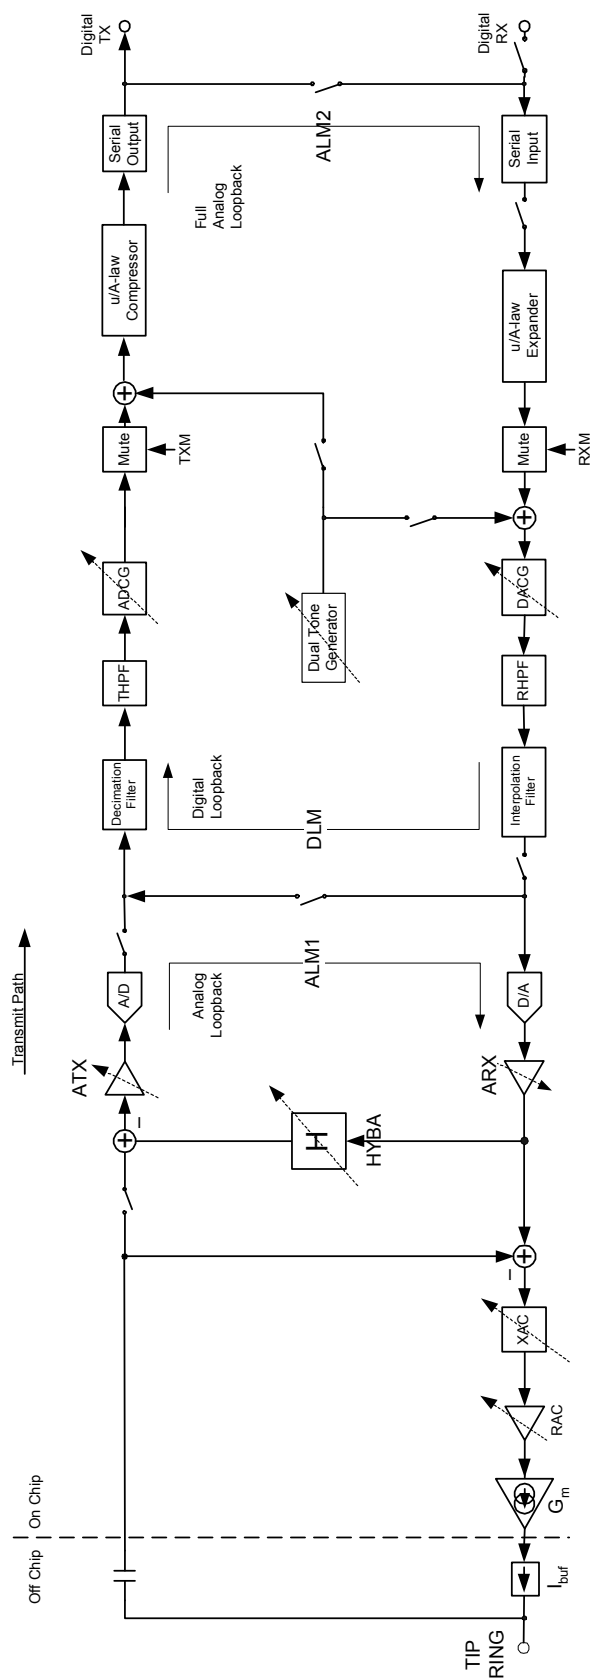

Figure 24. AC Signal Path Block Diagram
Unlike traditional SLICs, the codec function is integrated into the ProSLIC. The 16-bit codec offers software-selectable 200 Hz to 3.4 kHz narrowband and 50 Hz to 7 kHz (Si3216 only) wideband audio modes, programmable gain/attenuation blocks, and several loop-back modes. The signal path block diagram is shown in Figure 24.
The ProSLIC provides programmable transhybrid balance with gain block H. (See Figure 24.) In the ideal case where the synthesized SLIC impedance exactly matches the subscriber loop impedance, the transhybrid balance should be set to subtract a -6 dB level from the transmit path signal. The transhybrid balance gain can be adjusted from -2.77 dB to +4.08 dB around the ideal setting of -6 dB by programming the HYBA[2:0] bits of the Hybrid Control register (direct Register 11). Adjusting any of the analog or digital gain blocks does not require any modification of the transhybrid balance gain block, as the transhybrid gain is subtracted from the transmit path signal prior to any gain adjustment stages. The transhybrid balance can also be disabled, if desired, using the appropriate register setting.
- The full analog loopback (ALM2) tests almost all the circuitry of both the transmit and receive paths. The transmit data stream is fed back serially to the input of the receive path expander. (See Figure 24.) The signal path starts with the analog signal at the input of the transmit path and ends with an analog signal at the output of the receive path.
- An additional analog loopback (ALM1) takes the digital stream at the output of the A/D converter and feeds it back to the D/A converter. (See Figure 24.) The signal path starts with the analog signal at the input of the transmit path and ends with an analog signal at the output of the receive path. This loopback option allows testing of the analog signal processing circuitry of the ProSLIC completely independently of any activity in the DSP.
- The full digital loopback tests almost all the circuitry of both the transmit and receive paths. The analog signal at the output of the receive path is fed back to the input of the transmit path by way of the hybrid filter path. (See Figure 24.) The signal path starts with PCM data input to the receive path and ends with PCM data at the output of the transmit path.
Real and complex two-wire impedances are realized by internal feedback of a programmable amplifier (RAC), a switched capacitor network (XAC), and a transconductance amplifier (G_m) (See Figure 24.) RAC creates the real portion, and XAC creates the imaginary portion of the ac impedance. G_m then creates a current that models the desired impedance value to the subscriber loop. The differential ac current is fed to the